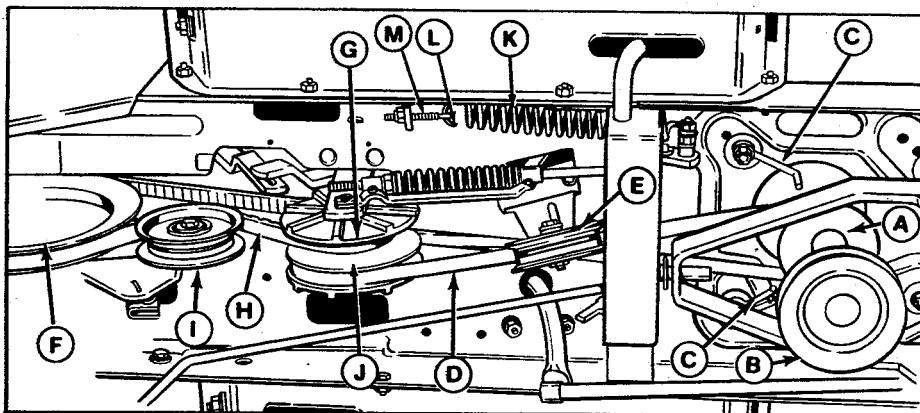

Figure 20. Belt Replacement
3. Pull downward on the rear idler pulley (I, figure 20) and slip the rear belt (H) off.
5. Slip the front belt (D) off the variator pulley (G).
6. Loosen up the idler pulley (E) mounting hardware enough so the belt can be slipped from the pulley and belt stop and slip the belt off.
7. Slip the belt off the engine pulley (A) loosening the belt stops (C) as necessary. Pull the belt down off the PTO pulley (B), and remove from the tractor.
9. Slip the rear belt (H) off the variator pulley (G). Remove the belt from the transmission pulley (F) by pulling lower section toward transmission pulley and